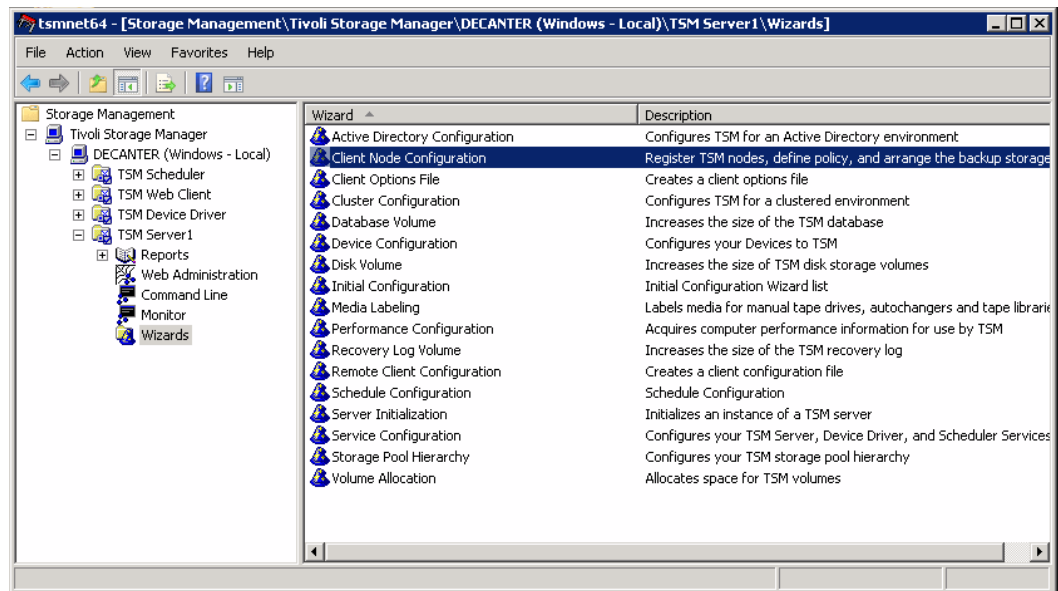

Figure 7-11 Tivoli Storage Manager Management console
20. To configure the client node, you could use the Client Node Configuration Wizard GUI. It is part of the Tivoli Storage Manager Management console, and can be found in the Wizard section, as shown in Figure 7-11.